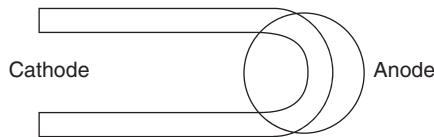

Figure 36 Stress corrosion in metal.
1. **Stress corrosion:** Mechanical forces within the metal bring about stress corrosion. The internal stress of metal arises when the metal is subjected to mechanical operations such as pressing, hammering, bending, welding or riveting. The stress can also be external stress that acts on the metal during service conditions. The metal atoms under stress are always at higher energy levels as compared to stress-free atoms. The stressed part of the metal, therefore, becomes more reactive than the stress-free part. As a result, a galvanic cell is formed with the stressed part acting as anode, and stress-free part acting as cathode (Figure 36). Under specific corrosion environments, the stressed part undergoes corrosion, initiating the crack. In the presence of continuously acting stress and corrosion medium, the crack propagates through the metal. Cracking of brass and caustic embrittlement of steel boilers are two examples of stress corrosion.